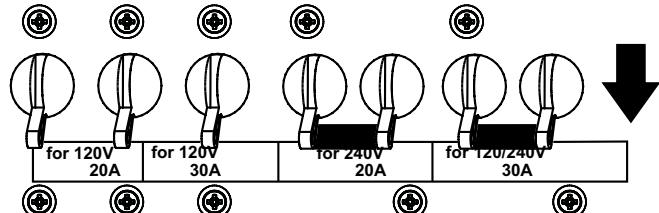

Figure 33. GFCI/AUX. Circuit Breakers (OFF)
2. Place **GFCI** and **AUX.** circuit breakers (Figure 33) in the OFF position.